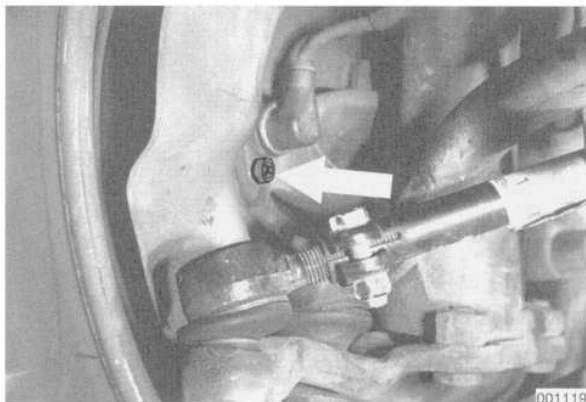

Fig. 19. Front ABS pulse sensor mounting bolt (arrow).
2. Unscrew the pulse sensor mounting bolt. Remove the sensor from its housing. Remove the harness from any retaining mounts. See Fig. 19.